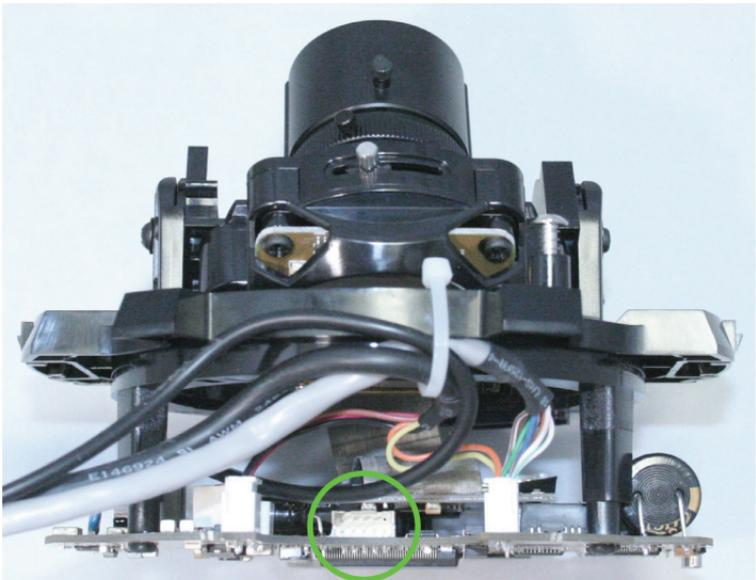

Figure 7
- Locate the serial port connector shown in *Figure 7*.